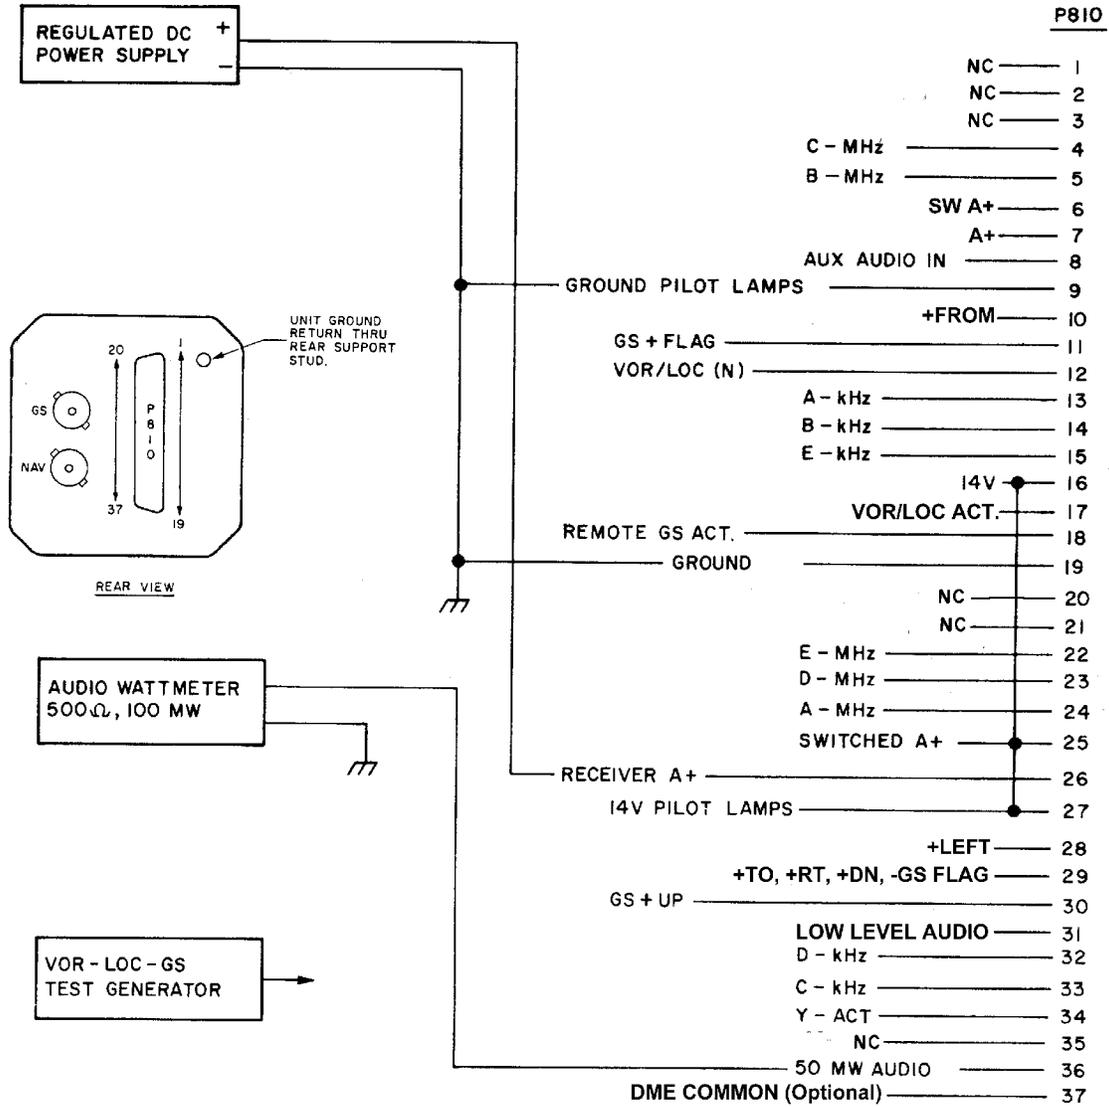

FIGURE 2-1. BENCH TEST HARNESS
The harness shown in Figure 2-1 will permit bench testing of a NAV122D. Alternatively, the cable to be installed in the aircraft may be used, providing in addition, a checkout of avionics and cabling.
- 1) Connect the test equipment (Section 2.2.2.1) as shown in Figure 2-1.